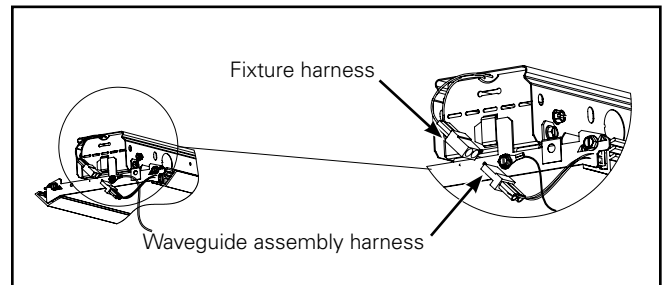

Figure 12.
5. Connect LED wire harness on each end of the waveguide assembly. (Figure 12.)